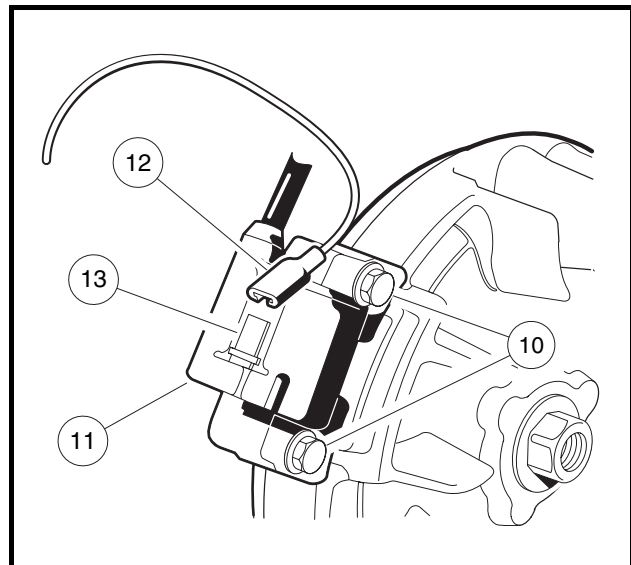

Figure 12-26 Black Wire And Ignition Coil
10. Disconnect the 18-gauge black wire (12) from the spade terminal (13) on the ignition coil (11) and remove the coil by removing two bolts (10) (**Figure 12-26, Page 12-25**).
11. Connect the 18-gauge black wire (12) to the spade terminal (13) on the coil (**Figure 12-26, Page 12-25**).